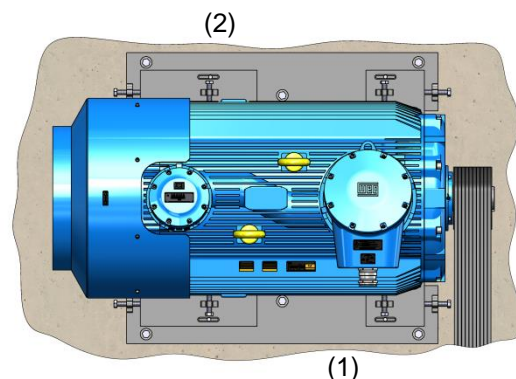

Figure 5-4 - Rail mounting
The nearest rail to the drive pulley is positioned in such a way that the adjusting bolt (1) is between the motor and the driven machine. The other rail must be positioned with the bolt on the opposite side (diagonally opposite (2)), as shown in Figure 5-4. The motor is bolted to the rails and set on the base.